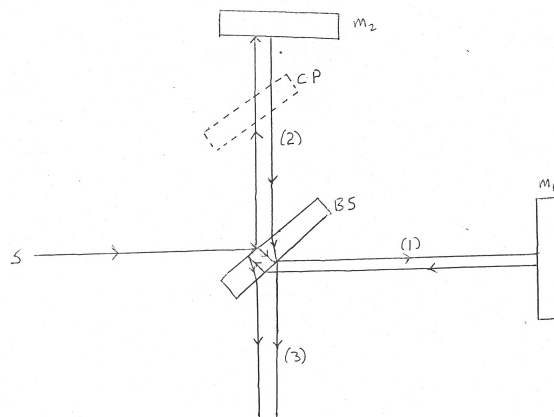

Figure 1
See Fig. 1. Light from a source S is directed onto a beam splitter (BS) which is oriented at 45 degrees with respect to the source. The light source can be diffuse, such as from a discharge lamp, or directed, as from a laser. The BS is a plate of glass which is coated on one side so that about 50% of the incident light is reflected and 50% is transmitted. The light that is transmitted by the BS, along with the light reflected from mirror  $M_1$ , form beams (1). The light that is reflected from the BS, along with the light reflected from mirror  $M_2$ , form beam (2). Beams (1) and (2) are then respectively reflected from and transmitted through the BS and form beam (3), which is observed. If the source is a modestly powered discharge lamp, beam (3) can be observed with the naked eye. If the source is a laser, BEAM (3) MUST BE OBSERVED BY LETTING IT FALL ON A SCREEN, and then looking at the screen.